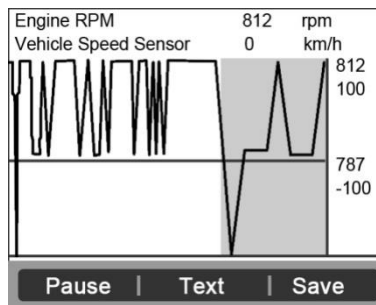

Figure 5.13
- If the “**Graphics**” on the bottom appears when a PID is highlighted, graphic information is available. Select **Graphics** to view graph. (Figure 5.13). PID name, current value, maximum and minimum values are displayed on the screen.